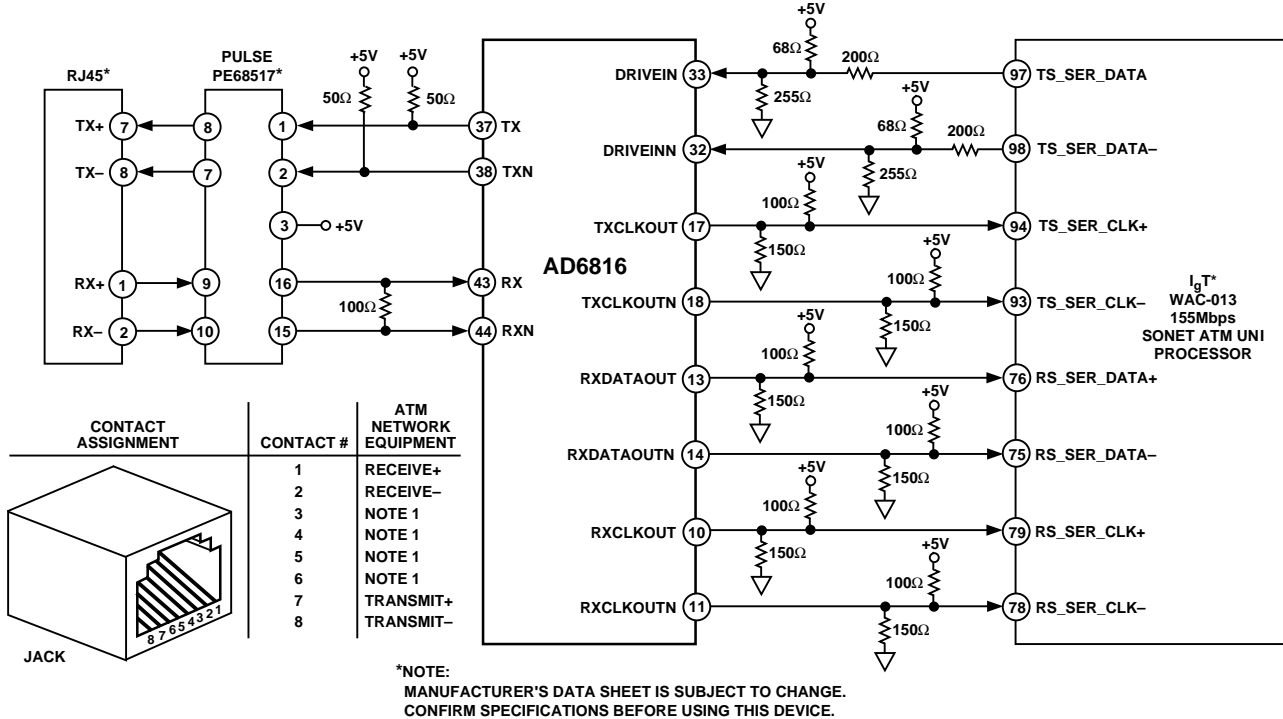

Figure 28. UTP#5 Application with IgT WAC-013
2. THIS SCHEMATIC HAS INCORRECT MNEMONICS AT AD6816 PINS 37 AND 38, AND AT PINS 32 AND 33. SEE PIN CONFIGURATION, PIN DESCRIPTION AND FIGURES 28 AND 29 CORRECT DESCRIPTION.
Figure 28 shows a more detailed block diagram of the single channel application. The AD6816 provides the WAC-013 with a 155 MHz Tx clock at PECL levels. The WAC-013 processes 155 Mbps Tx data directly from this 155 MHz clock. The WAC-013 generates 155 Mbps differential NRZ data at CMOS levels. These differential data output signals data are PECL-level translated using the 3-resistor network (refer to Figure 25). The AD6816 processes the NRZ data through its line driver. The line driver output data is processed through an external low-pass filter and transformer before entering the RJ45 connector.